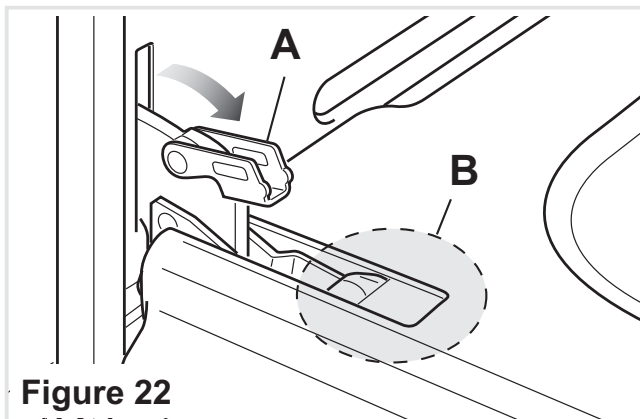

Figure 22
- Open the lever “A” completely on the left and right hinges (fig. 22).
- Gently close the door until left and right hinge levers “A” are hooked to part “B” of the door (figs. 22, 23).